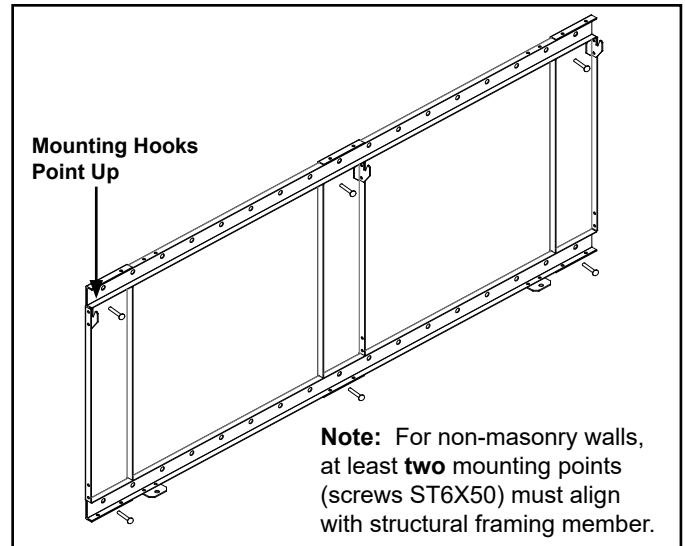

Figure 4.13 Bracket Attachment
- At the points where a wood or metal framing member exists, the ST6X50 screw can be installed directly into that structural member. See Figure 4.13.
- With mounting hooks pointed up, attach the bracket to the masonry anchors with ST6X50 screws. See Figure 4.13.